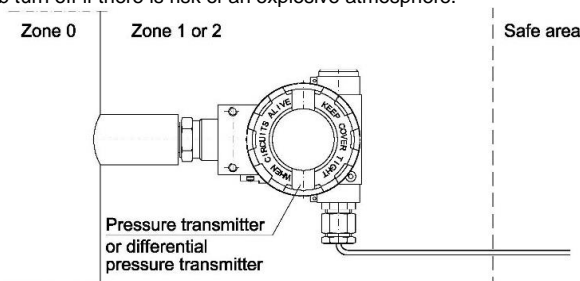

fig.1a
Equipment protection level (EPL) Ga/Gb (Da/Db) means that the transmitter may be installed within a type 1 (21) or 2 (22) danger zone and process connections can connect to zone 0 (20) (example shown below – fig. 1a).